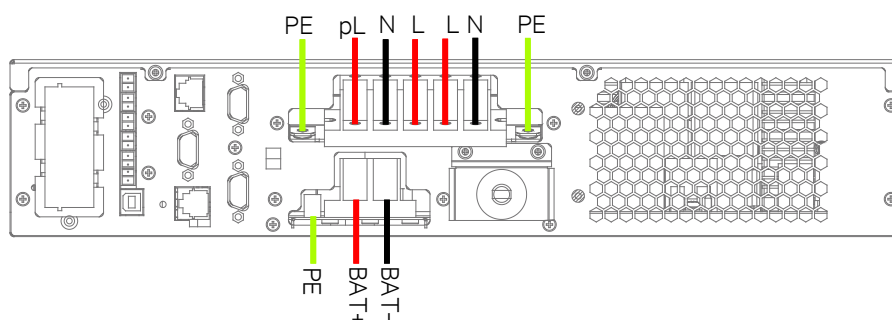

Figure 2-18 Wiring diagram
3. Pass the input live wire, input N line and input PE line through the cable entry holes of the junction box, and respectively connect them to the input live wire terminal (L), input N line terminal (N) and input PE terminal (PE), then fasten the fixing screws. See Figure 2-18.
4. As shown in Figure 2-18, pass the output live wire, output N line and output PE line through the cable entry holes of the junction box, and connect them to the output live wire terminal (L), output N line terminal (N) and output PE terminal (PE) respectively, then fasten the fixing screws.
5. As shown in Figure 2-18, pass the battery positive line, battery negative line and PE line through the cable hole of the junction box, and connect them to the battery positive terminal (BAT+), battery negative terminal (BAT-) and battery PE terminal (PE) respectively, then fasten the fixing screws.